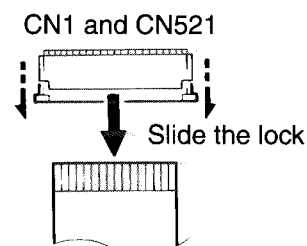

Fig. 2-2
3. Disconnect the flexible wire connected to connector CN521 on the MD servo board (see Fig.2-2).